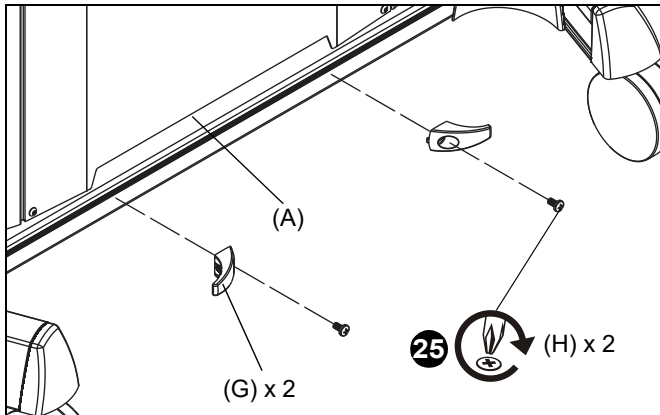

Figure 13
- Use two 1/4-20 x 1/2" Phillips pan machine screws (H) to attach two cable hooks (G) to bottom of column assembly (A). (See Figure 13)